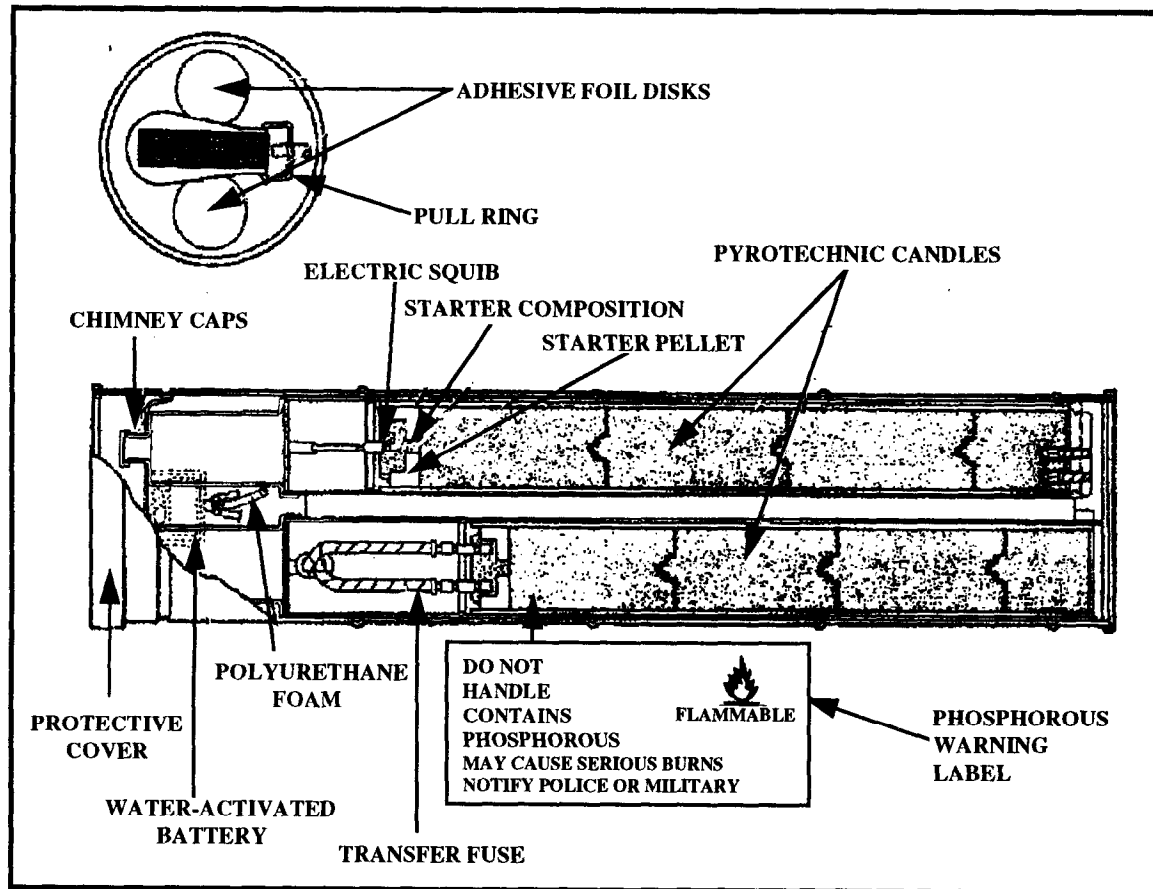

Figure 9-2. Marine location marker, Mk 58 Mod 1
b. **Marker, Location, Marine, Mk 58 Mod 1.** This marker consists of a cylindrical tin can (21.78 inches long and 5.03 inches in diameter). The ignition end of the marker has three holes, two for smoke and flame emission and one for entry of water to activate the signal. Adhesive foil discs hermetically seal the two emission holes and a reinforced adhesive foil strip with a rectangular pull hermetically seals the hole for water activation. The adhesive foil seals are protected during handling and shipping by a replaceable polyethylene protective cover. A description of the marker is shown in Figure 9-2.